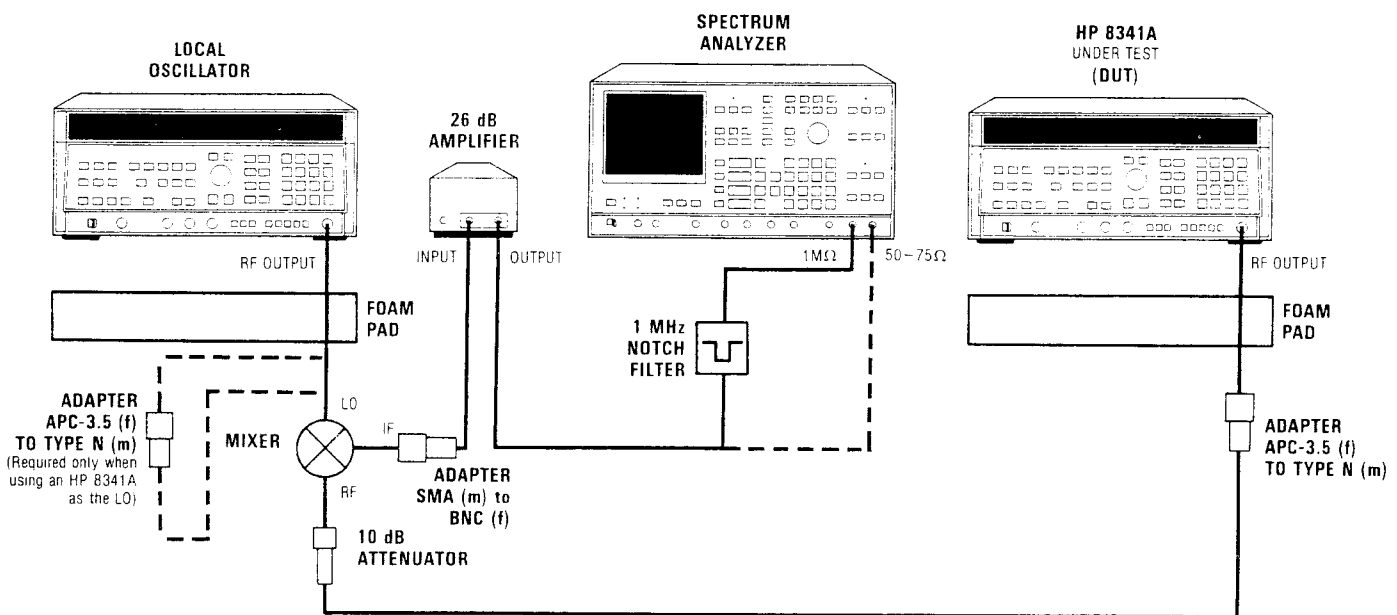

Figure 4-9. Single Sideband Phase Noise Test Setup
1. Connect equipment as shown in Figure 4-9 with the amplifier connected directly to the HP 3585A 50 Ohm input.
**The foam pads shown in Figure 4-9 are required to isolate the DUT and LO from mechanical vibrations which could induce phase noise.**
17. Connect 1 MHz Notch Filter as shown in Figure 4-9. Select 1 MOhm input impedance on the HP 3585A.
23. Connect equipment as shown in Figure 4-9 with the amplifier connected directly to the HP 3585A 50 Ohm input. Return HP 3585A to 50 Ohm input impedance.
32. Connect the equipment as shown in Figure 4-9 with the 1 MHz Notch Filter connected. Select the 1 MOhm input impedance on the HP 3585A.